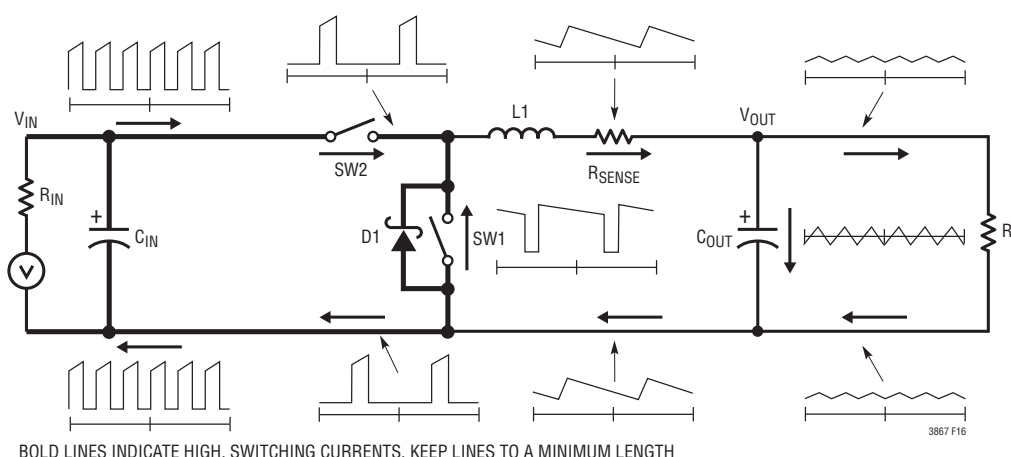

Figure 16. Branch Current Waveforms
When laying out the printed circuit board, the following checklist should be used to ensure proper operation of the IC. These items are also illustrated graphically in the layout diagram of Figure 16. Check the following in the PC layout:
7. The 47pF to 330pF ceramic capacitor between the I_{TH} pin and signal ground should be placed as close as possible to the IC. Figure 16 illustrates all branch currents in a switching regulator. It becomes very clear after studying the current waveforms why it is critical to keep the high switching current paths to a small physical size. High electric and magnetic fields will radiate from these *loops* just as radio stations transmit signals. The output capacitor ground should return to the negative terminal of the input capacitor and not share a common ground path with any switched current paths. The left half of the circuit gives rise to the *noise* generated by a switching regulator. The ground terminations of the synchronous MOSFET and Schottky diode should return to the bottom plate(s) of the input capacitor(s) with a short isolated PC trace since very high switched currents are present. External OPTI-LOOP® compensation allows overcompensation for PC layouts which are not optimized but this is not the recommended design procedure.